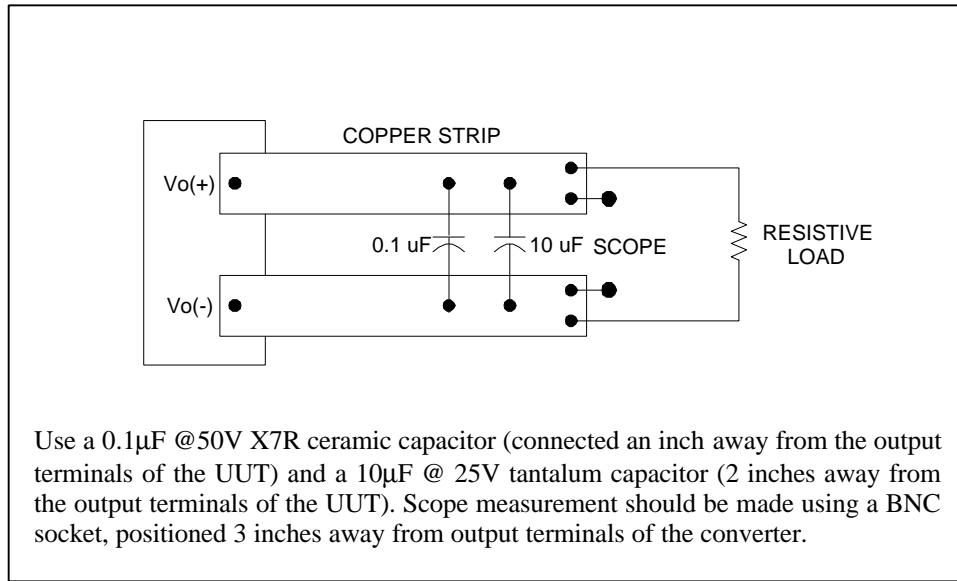

Figure 2. Peak to Peak Output Noise Measurement Setup.
- Refer to Fig 2 for the output ripple and noise test measurement setup.